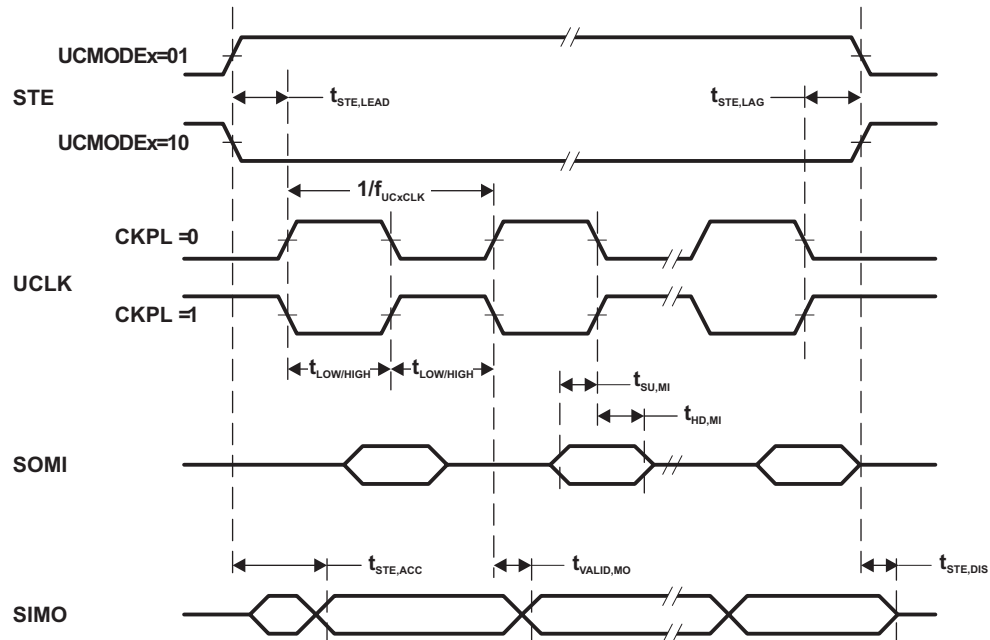
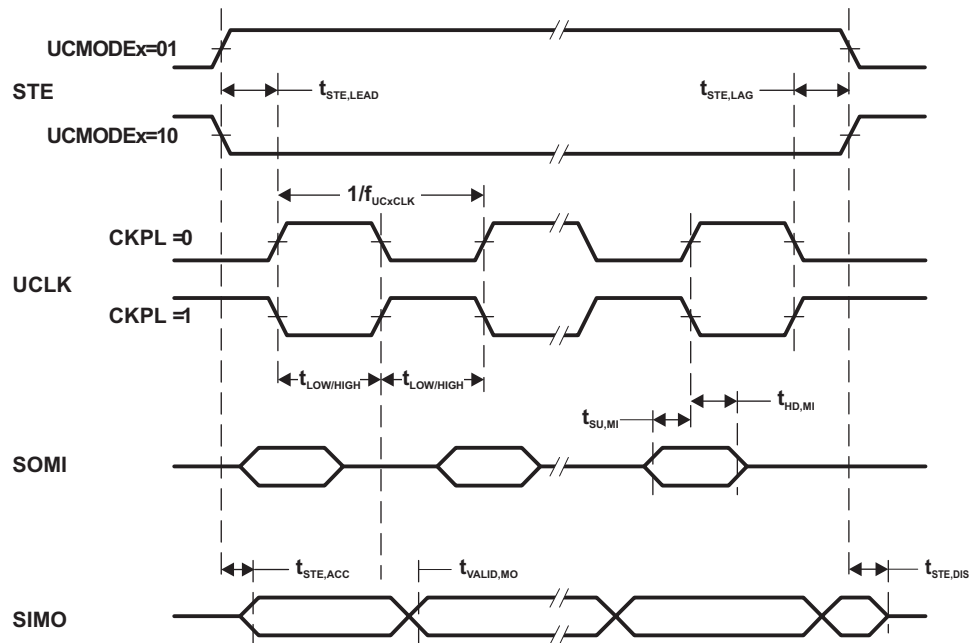

Figure 6. SPI Master Mode, CKPH = 0
Figure 7. SPI Master Mode, CKPH = 1
- (1) $f_{UCxCLK} = 1/2t_{LO/HI}$ with $t_{LO/HI} = \max(t_{VALID,MO}(eUSCI) + t_{SU,SI}(Slave), t_{SU,MI}(eUSCI) + t_{VALID,SO}(Slave))$. For the slave's parameters $t_{SU,SI}(Slave)$ and $t_{VALID,SO}(Slave)$ see the SPI parameters of the attached slave.
- (2) Specifies the time to drive the next valid data to the SIMO output after the output changing UCLK clock edge. See the timing diagrams in Figure 6 and Figure 7.
- (3) Specifies how long data on the SIMO output is valid after the output changing UCLK clock edge. Negative values indicate that the data on the SIMO output can become invalid before the output changing clock edge observed on UCLK. See the timing diagrams in Figure 6 and Figure 7.